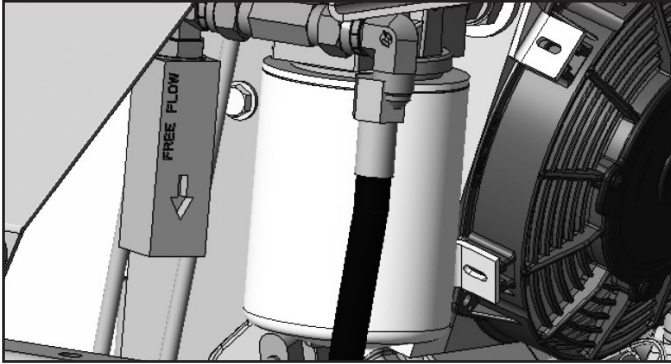

Figure 43: Hydraulic filter location
4. Remove rear tires with a ¾” socket and loosen lower motor hose on each side as shown in **Figure 43** with a ⅞” wrench. Route hose to an appropriate catch pan.
NOTE: Filter must be replaced with same size and type (10 micron) or warranty is void. See **Figure 43**.